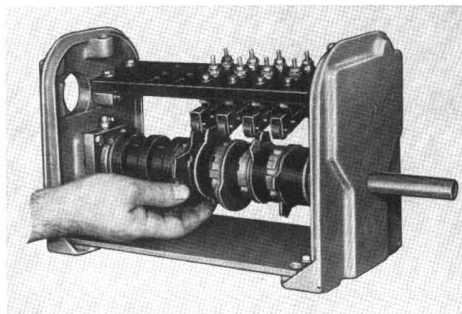

FIG. 2. Replacing Cams.
**Replacing Cams.** Cams are made of two parts which interlock together. When it is necessary to change or replace cams, loosen the clamping nut at one end of the shaft assembly enough to allow the moulded insulators to be moved apart along the shaft approximately  $\frac{3}{8}$ ". The two parts of the cams can then be separated (Figure 2) and removed.